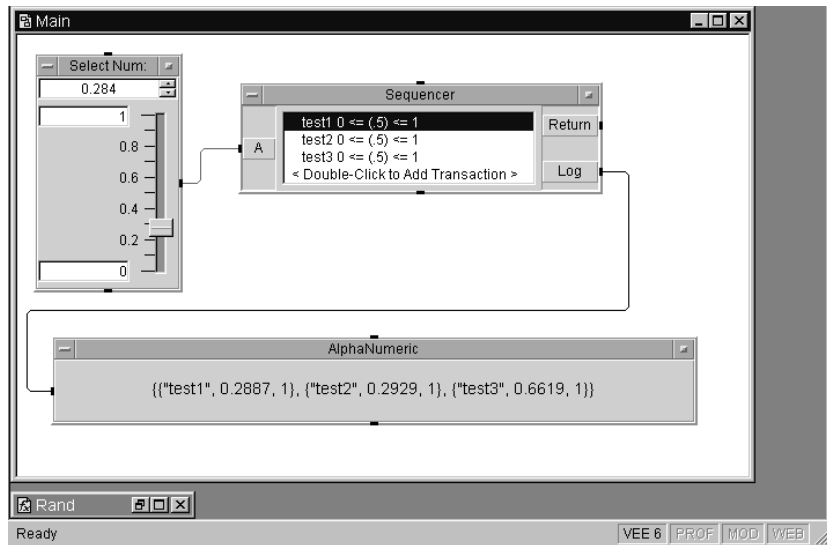

Figure 209 Passing Data Using an Input Terminal
- 3 Save the program again as seqdat1. Select a number on the Real64 Slider object and run seqdat1. It should look like Figure 209.